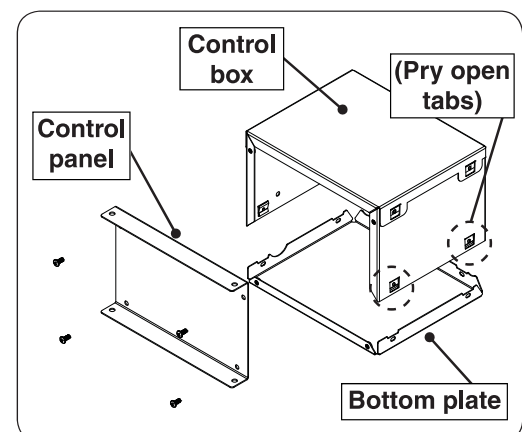

Fig. 34-4 Control panel interior access
3. Once the control box is accessible, remove the bottom plate by using a screwdriver to pry open the tabs found along the box. The control panel can also be removed by unfastening the 4 screws that are securing it to the box. See Fig. 34-4.